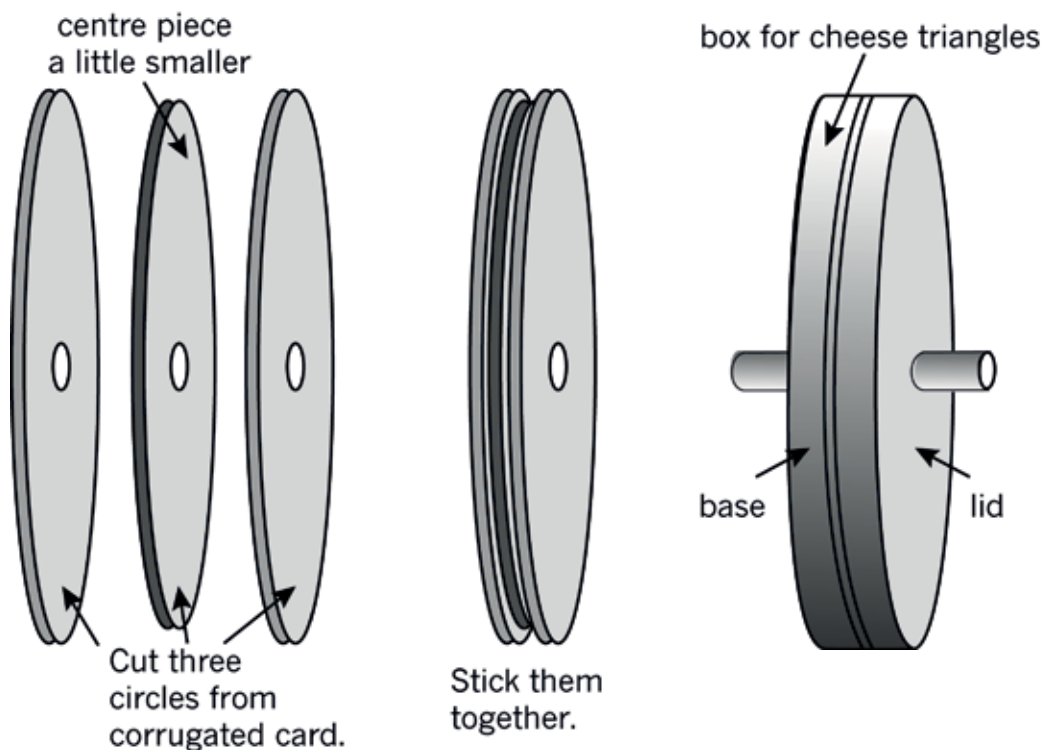

Figure 10: Two ways to make a model sheave wheel
Look at the pictures shown in Figure 10. They show two ways to make a model sheave wheel:
7. Make your own sheave wheel. Try to make it as close to the correct scale size as you can. Use Figure 10 to help you. (1)